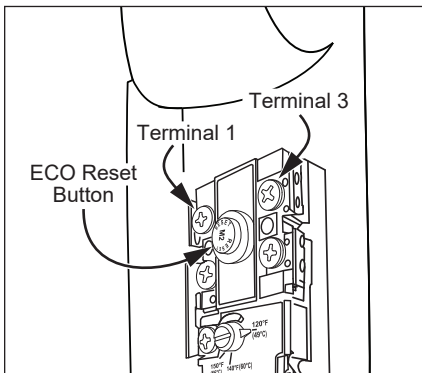

Figure 36 - Energy Cut Off (ECO) Button.
#### 3 Check the Top Two Screws of the ECO Using a Non-Contact Circuit Tester and Confirm that Power is OFF (screw terminals 1 and 3 shown in Figure 36).
- Press the red ECO reset button (Figure 36).